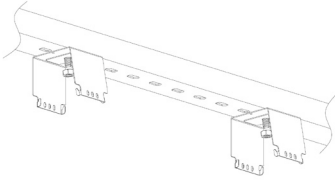

Figure 5
1. Mount the brackets on the rail or ceiling. (Fig. 5)